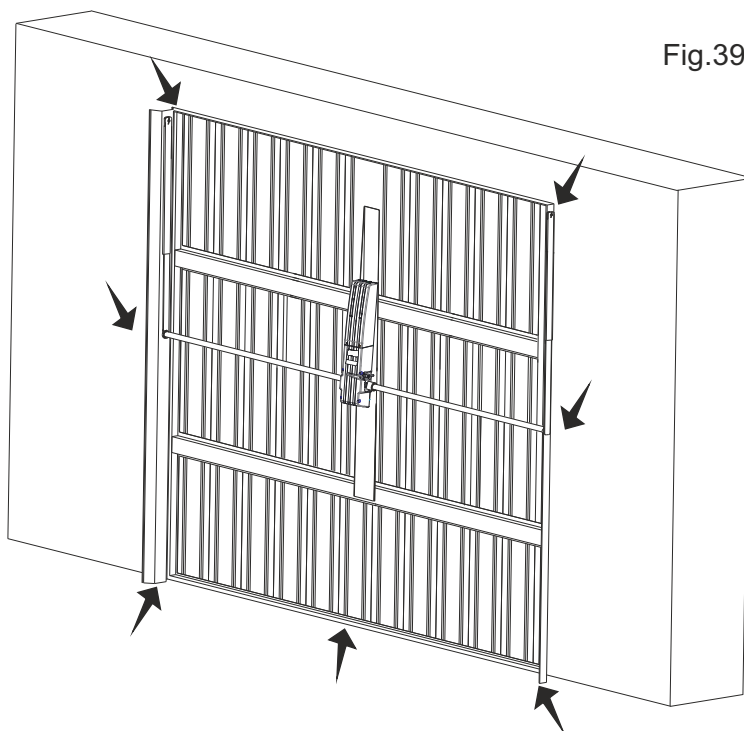

Fig.39
*The points pointed by arrows in Fig. 39 are potentially dangerous. The installer must take a thorough risk examination to prevent crushing, conveying, cutting, grappling, trapping so as to guarantee a safe installation for people, things and animals (Re. Laws in force in the country where installation has been made).*